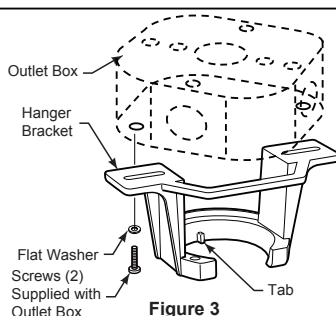

Figure 3
3. Route the black, white and blue wires through the downrod. (Figure 3)
1. Securely attach the hanger bracket to the outlet box (not included) using the outlet box screws and washers supplied with the outlet box. (Figure 3)